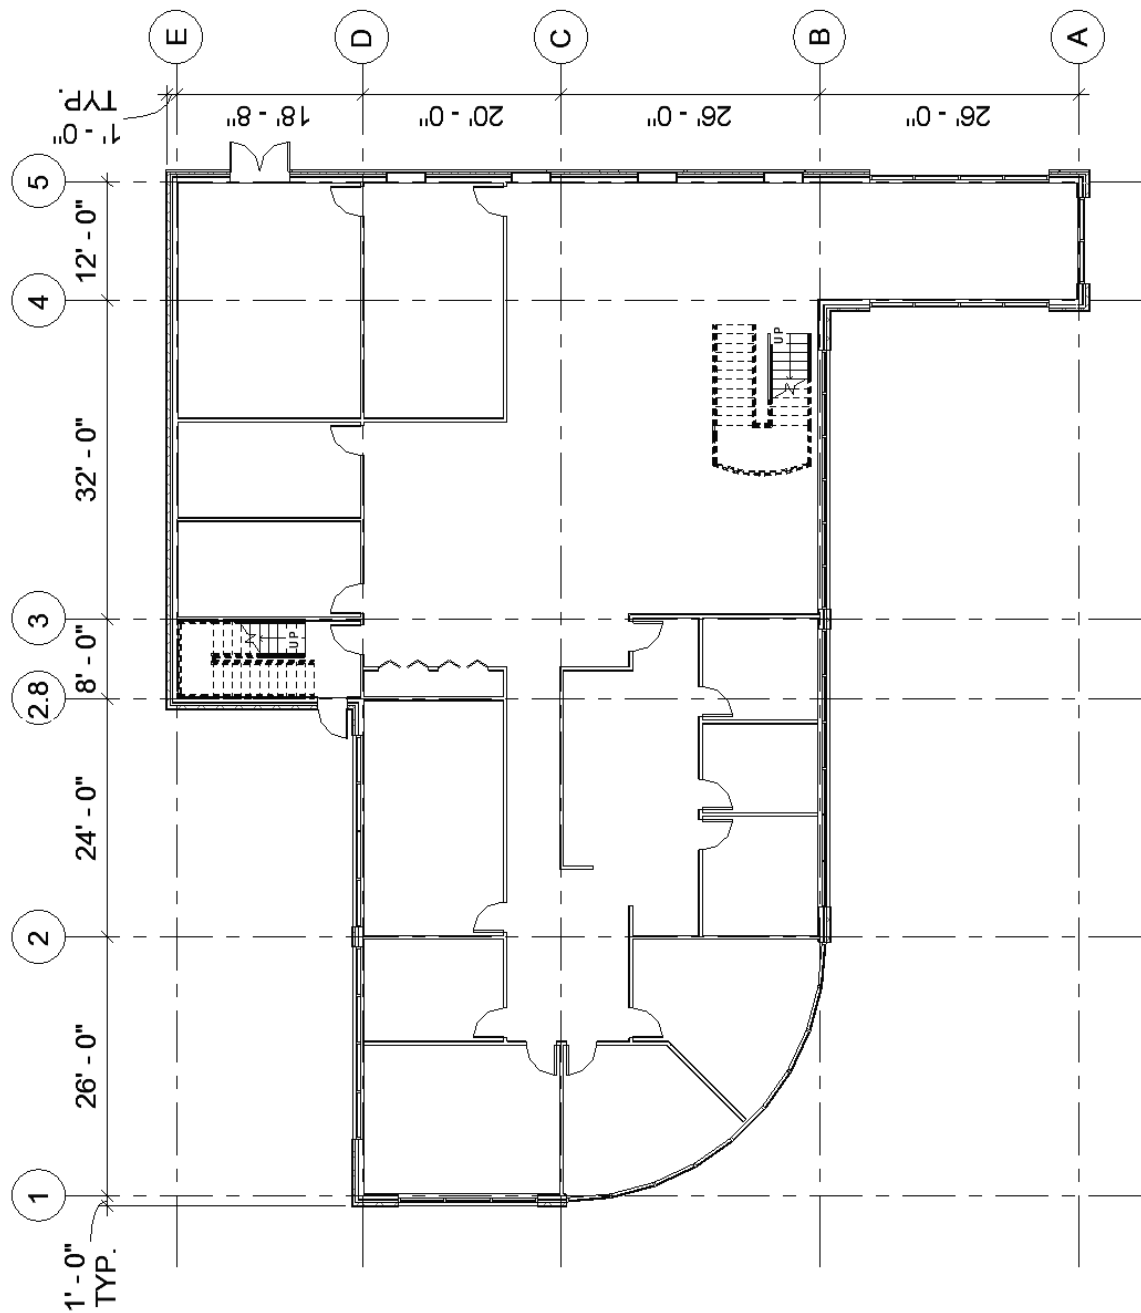

FIGURE 8-3.3
4. Layout the grid as shown in Figure 8-3.3.
- b. Use this as an opportunity to double-check the overall dimensions of your building. Many of the grids can be laid out based on the 1'-0" distance from the exterior face of the exterior wall rule we have established. Additionally, Figure 8-3.3 shows dimensions between each grid; this can be used to locate the remaining grids and verify dimensions.
***FYI:** In the image below (Figure 8-3.3), you can see two dimensions with the word “**TYP.**” below them. First off, this is an abbreviation which should only be used if it has been defined in an abbreviation list somewhere in the set of documents. This abbreviation means “TYPICAL,” and when used like this, lets the contractor know that any grid line near an exterior wall should be this same dimension (1'-0" in this case).*